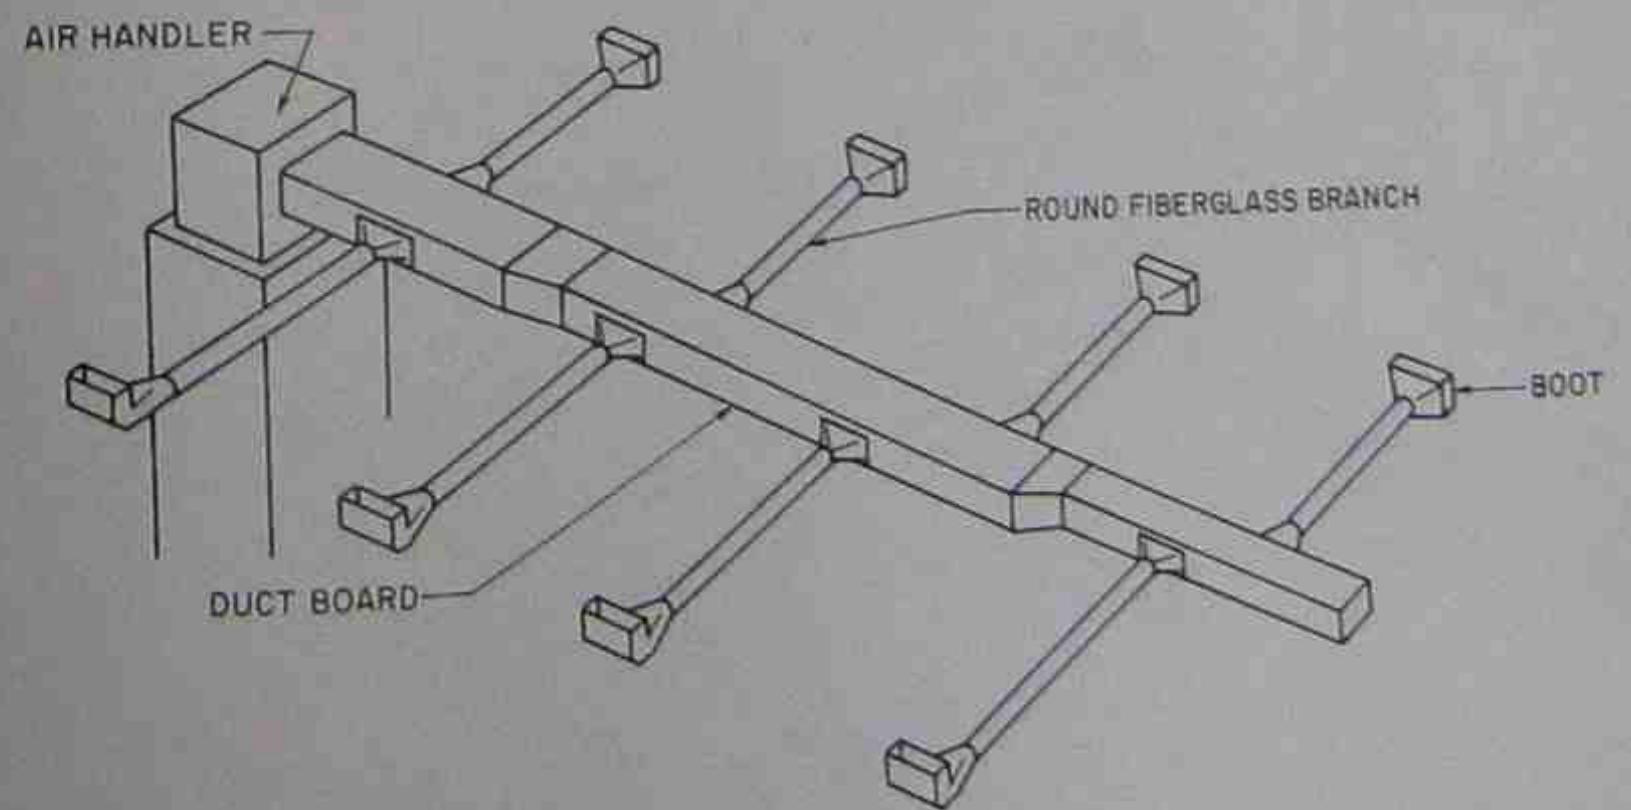

Figure 39-38. Fiberglass duct with round fiberglass branch ducts.
5. Ductboard trunk lines with round fiberglass branches, Figure 39-38.